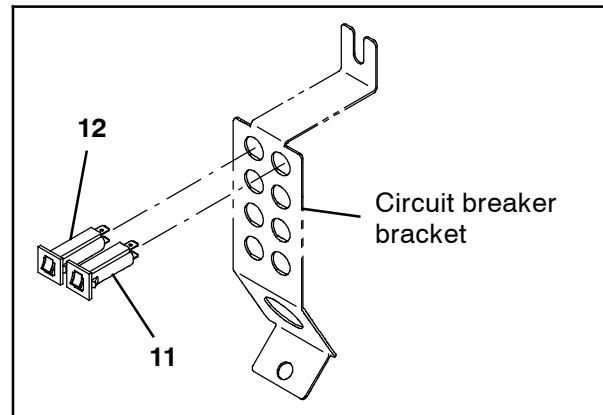

FIG. 18
30. Connect the main wire harness to the previously installed circuit breaker(s). (Fig. 18 / Fig. 11)